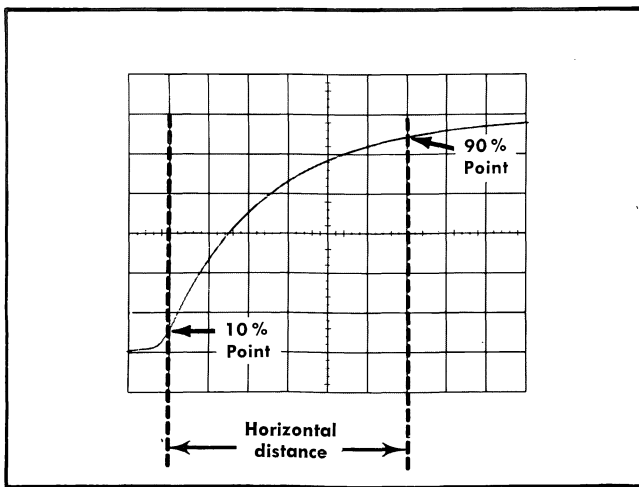

Fig. 2-17. Measuring risetime.
8. Adjust the horizontal POSITION control to move the 10% point of the waveform to the second vertical line of the graticule. For example with a six division display, the 10% point would be 0.6 division up from the start of the rising portion (see Fig. 2-17).
EXAMPLE. Assume that the horizontal distance between the 10% and 90% points is six divisions (see Fig. 2-17) and the TIME/DIV switch is set to 1 μ s with the magnifier on.